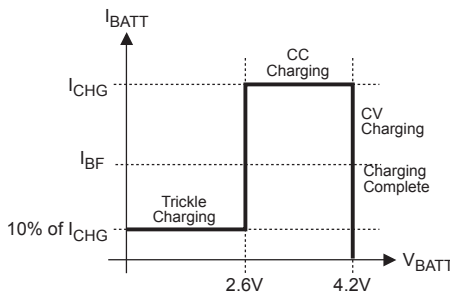

Figure 2: MP26057 Typical Charging Profile
Figure 2 below shows the typical charging profile for the MP26057. For a fully depleted battery with a terminal voltage lower than 2.6V, the MP26057 will start with the trickle charge (preconditioning) at 10% of the full charge current based on the value of R_{PGM} . If the charger stays in the trickle mode longer than 32768 cycles, RED/GRN pins become flashing indicating battery fault. After the battery voltage reaches 2.6V, the charger begins charging at the constant current of the programmed value (I_{CHG}). This is referred to as Constant Current (CC) mode. Once the battery voltage reaches 4.2V, the charger will operate in the constant voltage (CV) mode until the battery is fully charged. The charge current drops during CV mode, and the battery full indication is set when the charge current reduced to the preset value based on R_{IBF} , and the charge process terminated. Recharge will start after the battery voltage is for some reason reduced to 4.0V. After 262144 cycles of continuous charging, if the battery is still not reaching IBF condition, the on-chip timer will terminate the charger to prevent charging the dead battery for excessive long time and the fault condition will be flagged by flashing the RED/GRN LEDs.